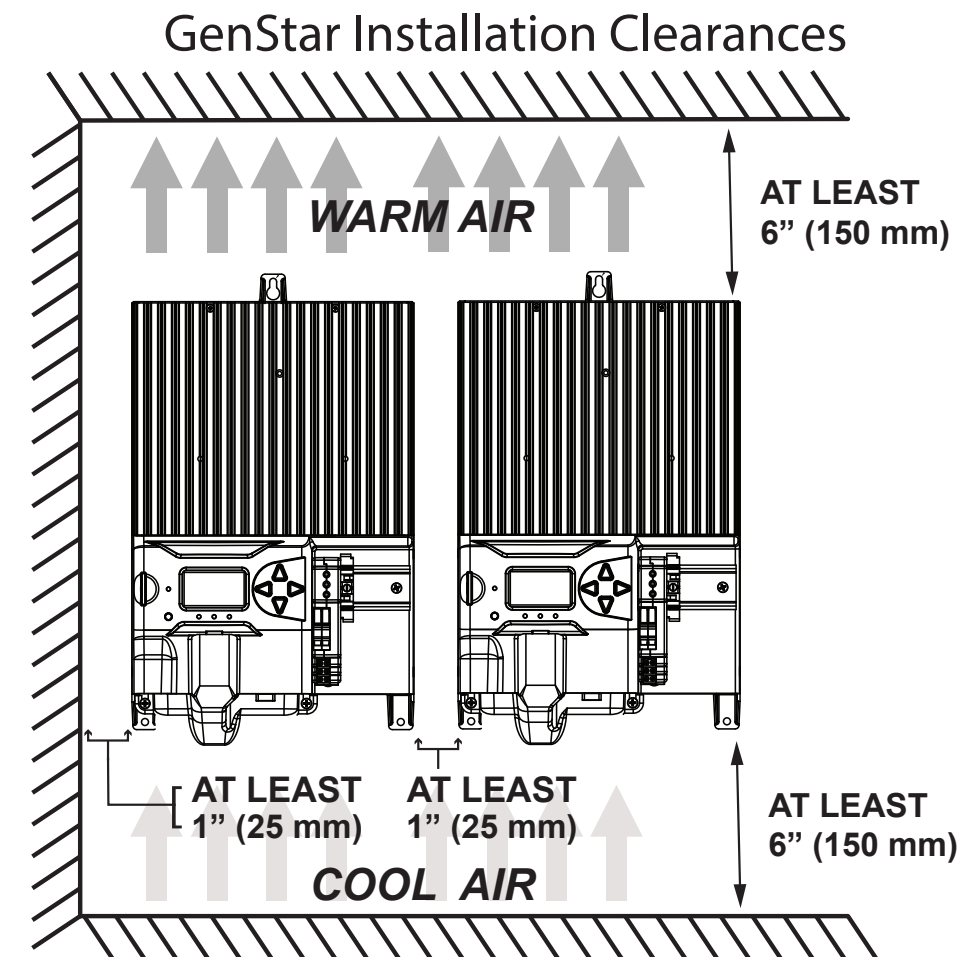

Figure 3-1. Required mounting clearance for proper air flow
3.2 Mounting - refer to Figures 3-1 and 3-2
B) Verify that there is at least 6" (150mm) of space above and below the unit, and at least 3" (75 mm) around the heatsink - see Figure 3-1.
B) Mark and drill (1)-1/8" (3.175 mm) hole in the top end (slot) of the template keyhole, and (2) lower holes for the frame holes.
B) Use two screws to secure the (2) unit lower frame holes flush with the wall.